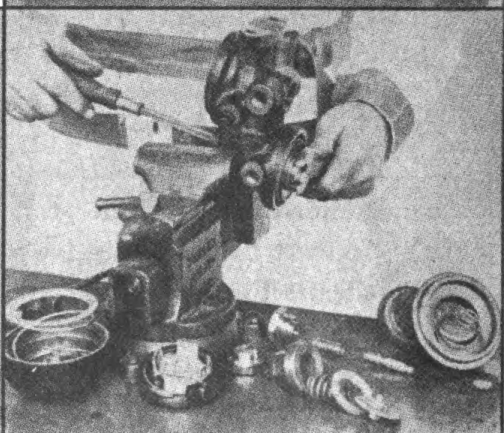

FIGURE 33. RELAY—EMERGENCY VALVE—REMOVING DIAPHRAGM COVER BODY
- (a) Remove diaphragm cover body (Fig. 33).